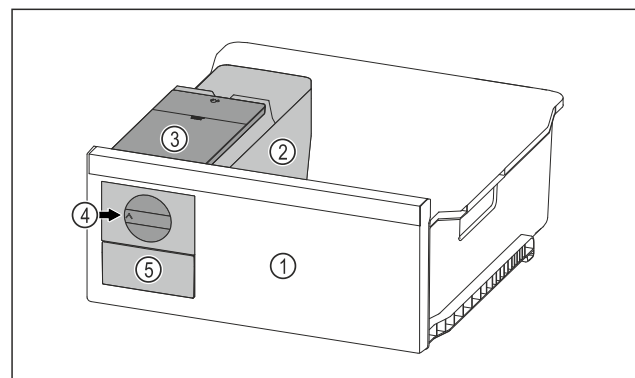

Fig. 90 Example illustration
- ▶ Turn the rotary knob Fig. 90 (4) clockwise as far as it will go.
- ▷ Ice cubes fall from the ice cube tray into the ice cube drawer Fig. 90 (5).